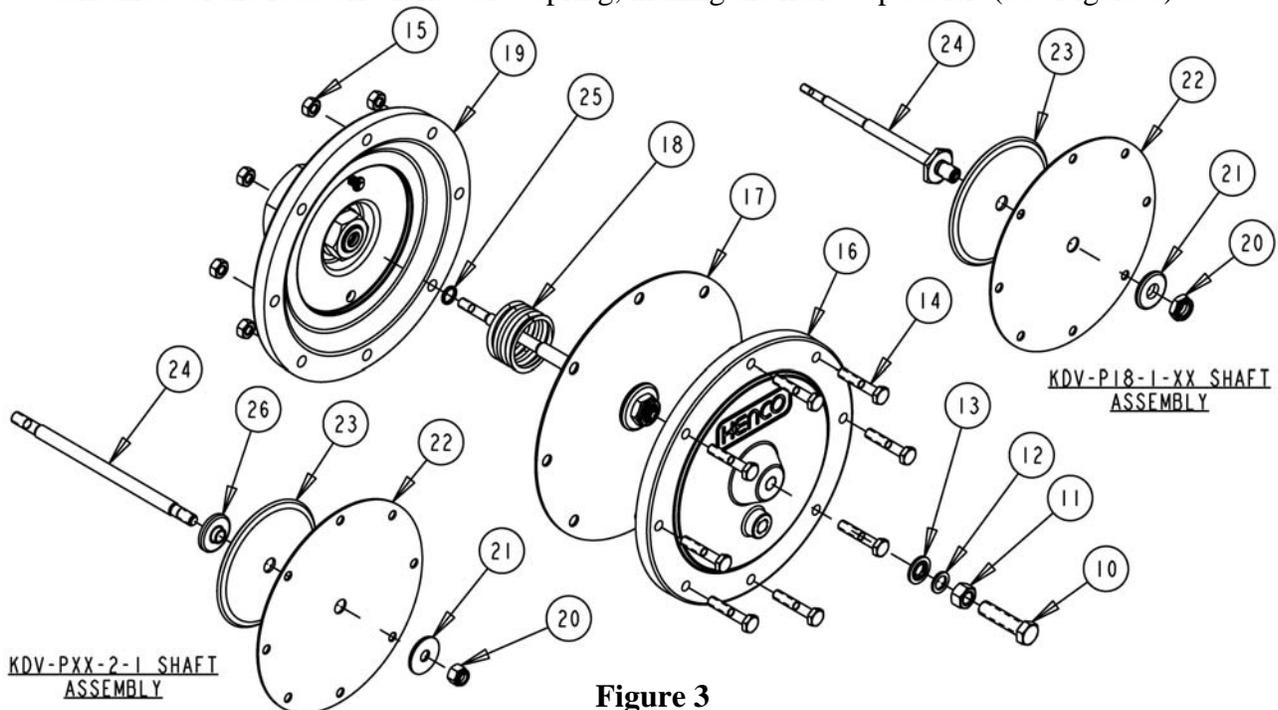

Figure 3
2. Remove the maintenance bolt (#10), nut (#11), flat washer (#12) and seal washer (#13). This will take most of the load off of the valve spring, making the next step easier. (See Figure 3)
10. Insert the shaft into the spud on the housing (#19). If the valve is a 2” valve, the shaft will have a fairly sharp edge on the shoulder the trim plug (#4 figure 3) bolts up against. Use care when inserting the shaft. The shaft should be gently rotated while applying some pressure to push it past the O-ring (#25). If caution is not used here, the O-ring (#25) and or packing (#26 figure 2) could be damaged.